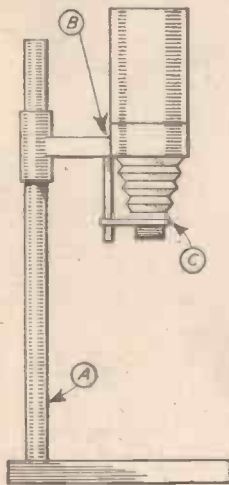

Fig. 1.—The components of a typical enlarger.
THE following notes are based upon observations made during the construction of the 35mm. enlarger described in the February issue. The usual type of enlarger shown in Fig. 1 comprises three main components. (A) Baseboard and column.